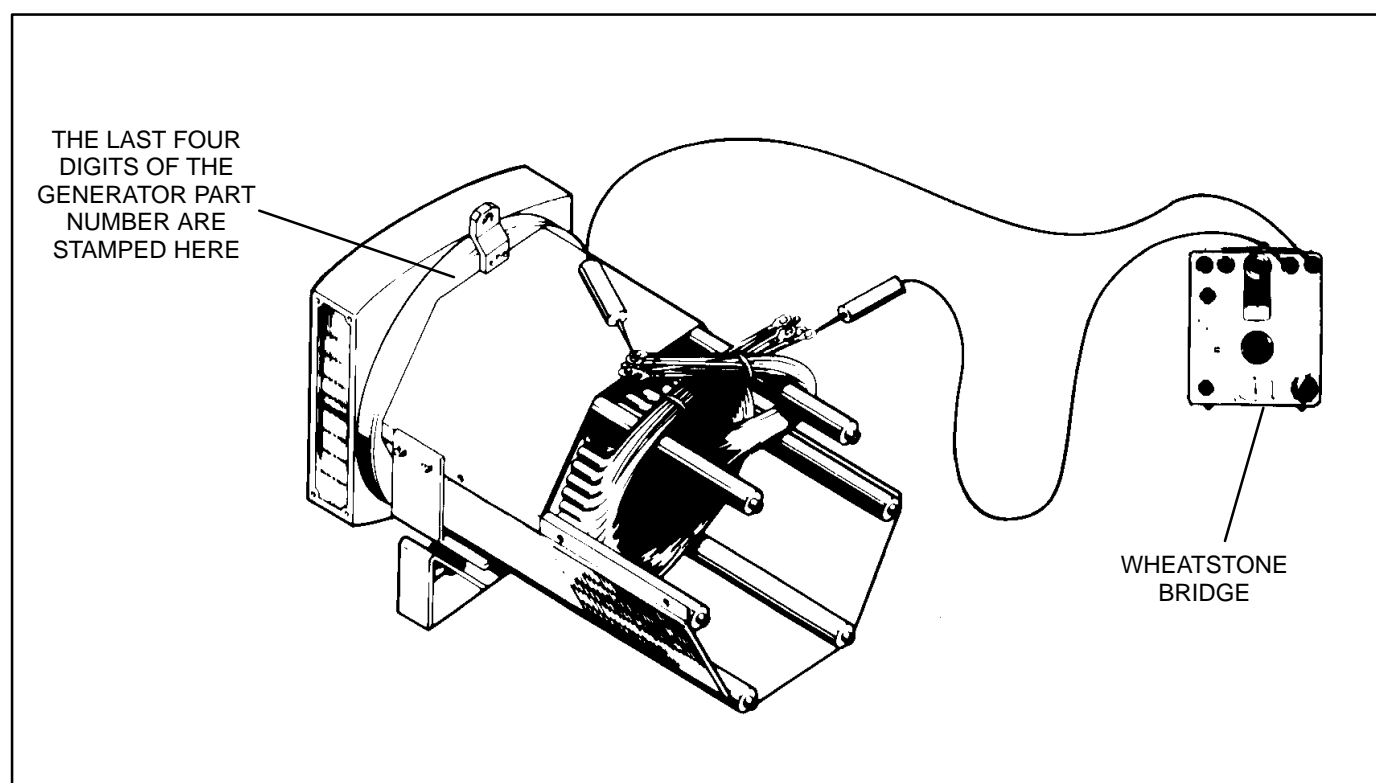

FIGURE 5-6. TESTING THE GENERATOR STATOR
** See Figure 5-6 for the location of the generator part number (last four digits are stamped on generator).